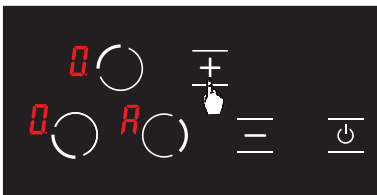

Figure 13
3. Then, when you press the **+** key again once, auto heating function is activated and the **A** icon is displayed on the screen. (See Fig. 13)